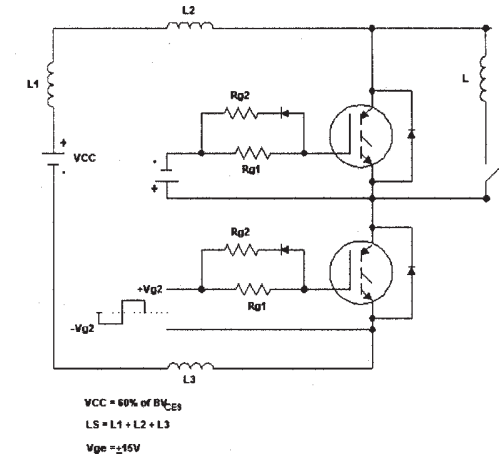

Fig. 17 - Test Circuit for Measurement of I_{LM} , E_{on} , $E_{off}(\text{diode})$, t_{rr} , Q_{rr} , I_{rr} , $t_{d(on)}$, t_r , $t_{d(off)}$, t_f
- ① Repetitive rating; $V_{GE} = 20V$, pulse width limited by max. junction temperature.
- ② See fig. 17
- ③ For screws M6.
- ④ For screws M5.
- ⑤ Pulse width 50 μ s; single shot.